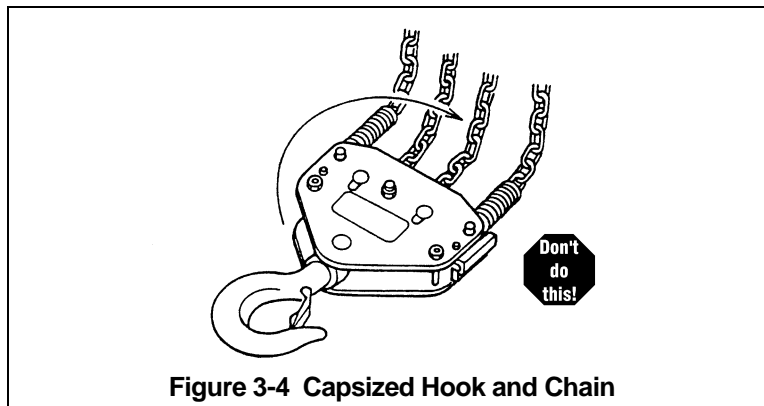

Figure 3-4 Capsized Hook and Chain
3.2.6 **⚠ WARNING** Verify that the load chain is not twisted or tangled prior to operating the hoist. Make sure the bottom hook is not capsized. See Figure 3-4. Correct all chain irregularities before conducting the first hoist operation.